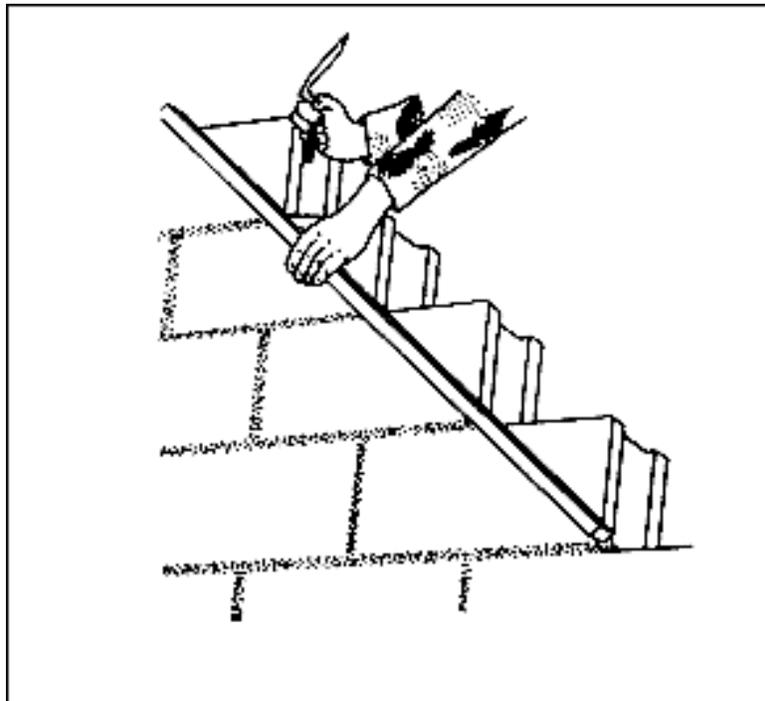

Figure 8-10. Checking horizontal block spacing
Step 6. Check the horizontal block spacing by placing a level diagonally across the corners of the blocks as shown in Figure 8-10.